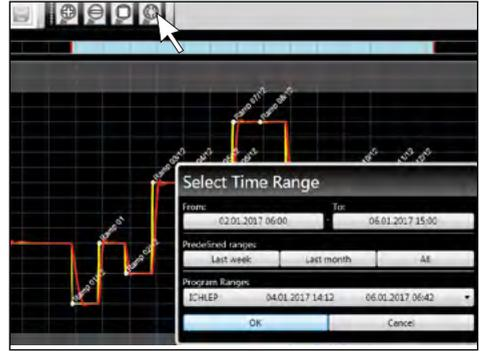

Fig. 9
▶ If you want to see a time range longer than two days, click on the rightmost symbol of the top toolbar (Fig. 9). This will open a window in which you can select the time range you want to see.